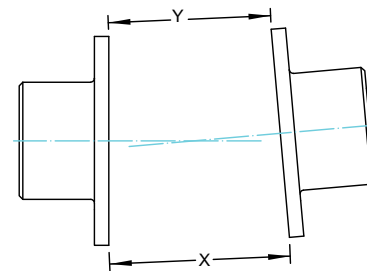

Figure 8 - Angular Misalignment.
- 8.7. The “Angular Misalignment” value is the maximum difference between the measurements X and Y taken at opposite ends of the hub flanges, as shown in Figure 8.